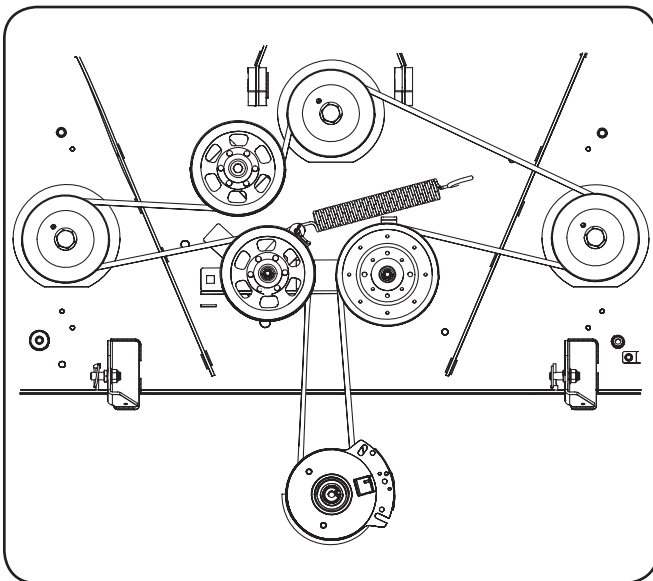

Figure 7-9
- Place the belt around the idler pulleys removed in step 3 with the “V” side facing in. Once in place, reinstall all the hardware and tighten the flange lock nut to secure the assembly. See Figure 7-9.
- Route the belt as shown in Figure 7-9 and then reinstall the deck (refer to Deck Installation on page 30).